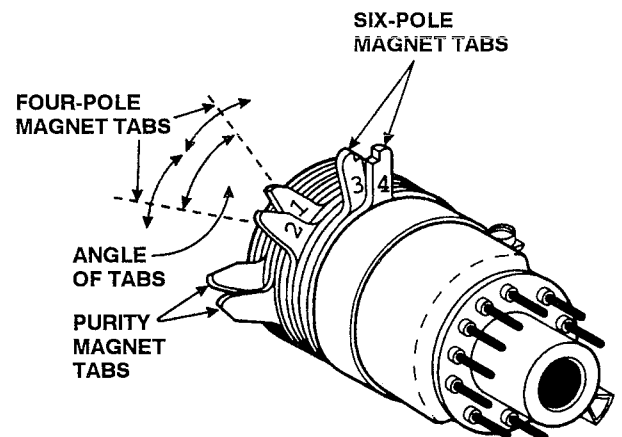

Figure 2. Purity and Convergence Magnets
3. Adjust the angle between the four-pole magnet tabs 1 and 2 (Figure 2), and superimpose the red and blue vertical lines in the center area of the picture screen. See Figure 4.